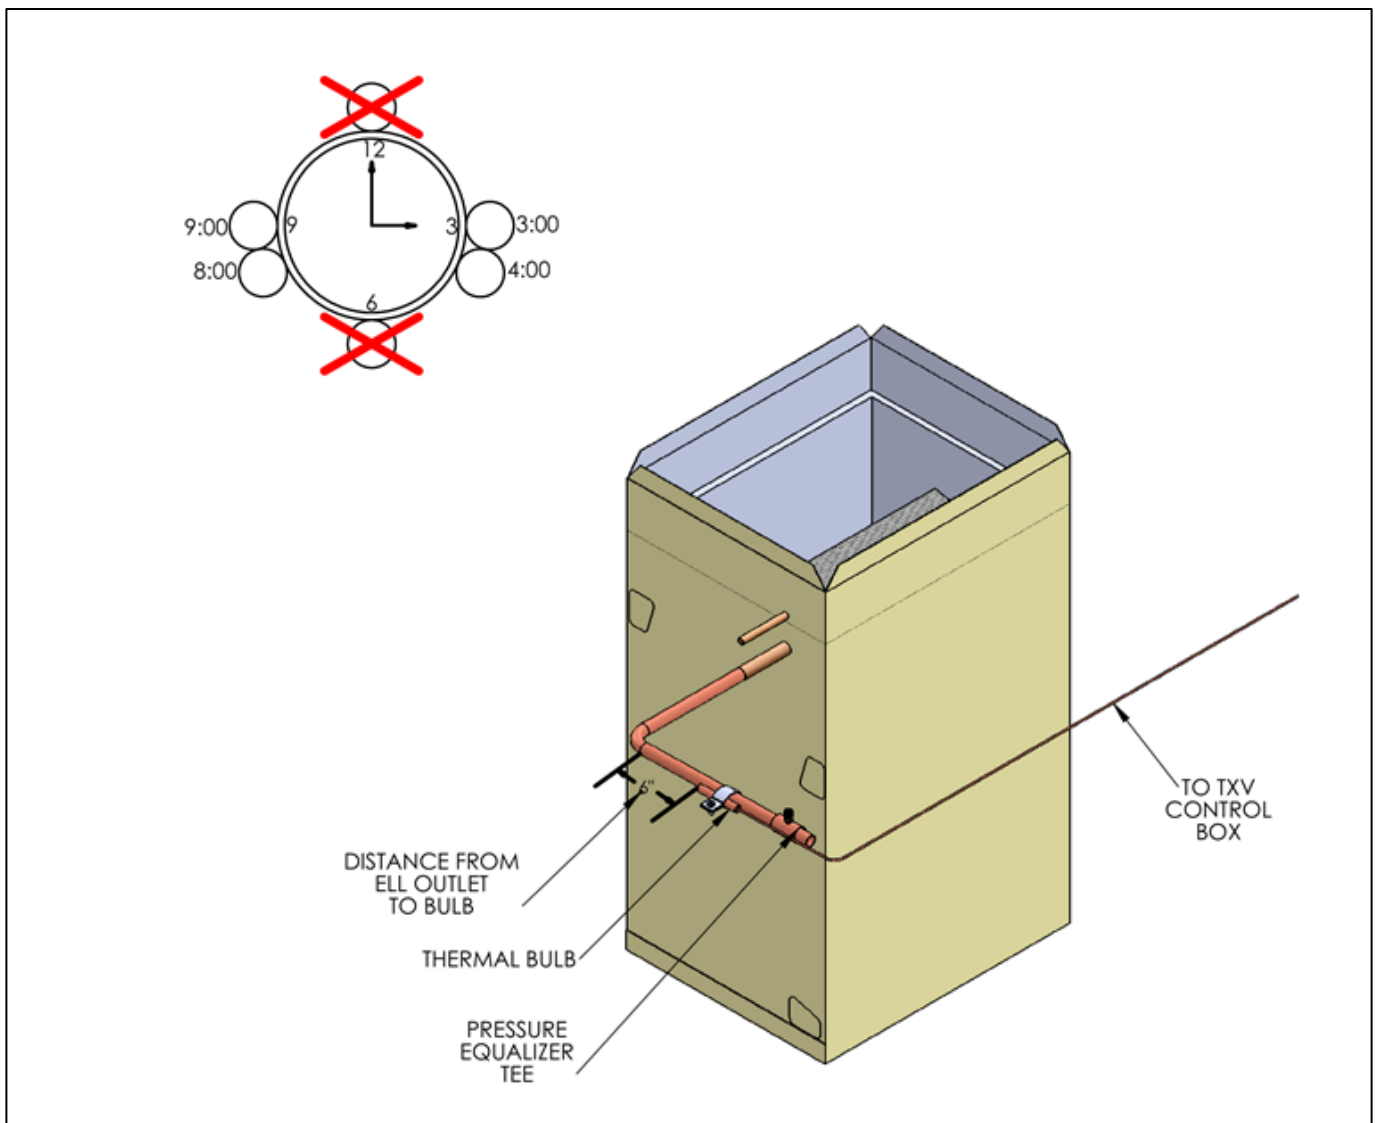

Figure 10. Thermal Bulb Positioning
Step 3: The **Thermal Bulb** must be positioned and clamped to the suction tube as shown in the example illustrated in Figure 10. The **Thermal Bulb and suction tube must be horizontal** regardless of the cased coil application (vertical or horizontal).
The Thermal Bulb must be positioned at the 3:00, 4:00, 8:00 or 9:00 positions on the suction tube, as illustrated in Figure 10.